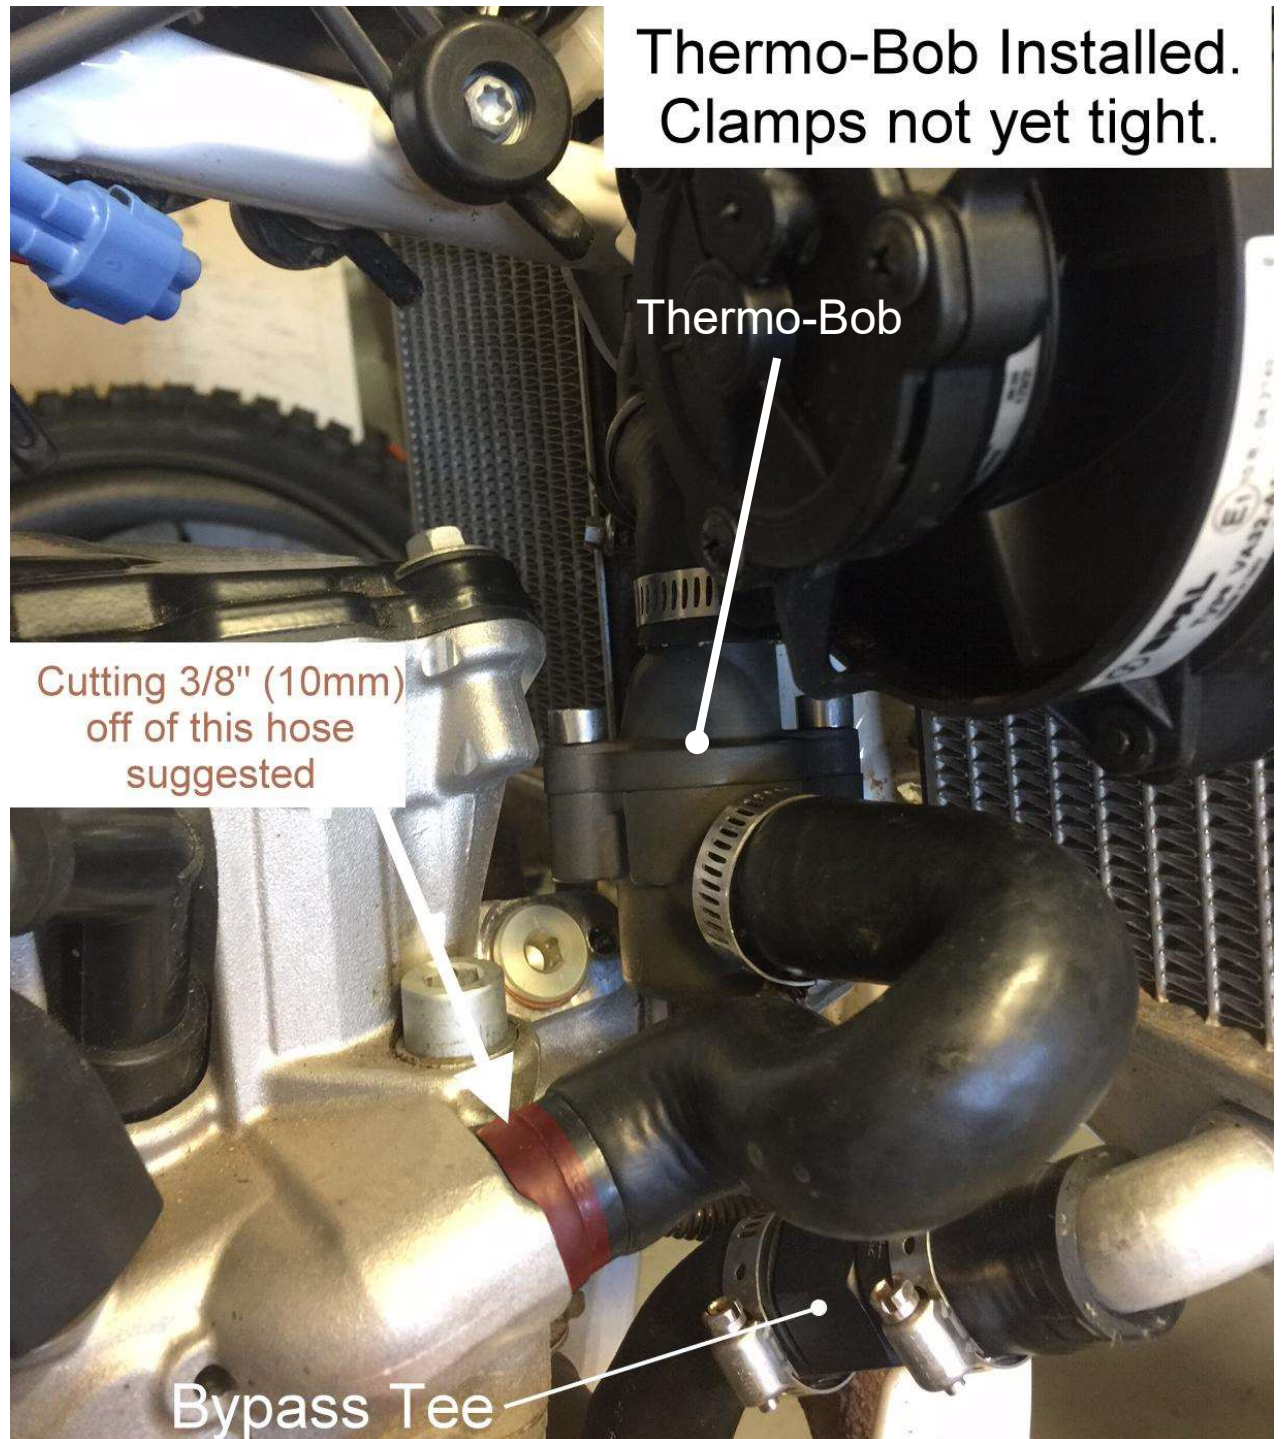
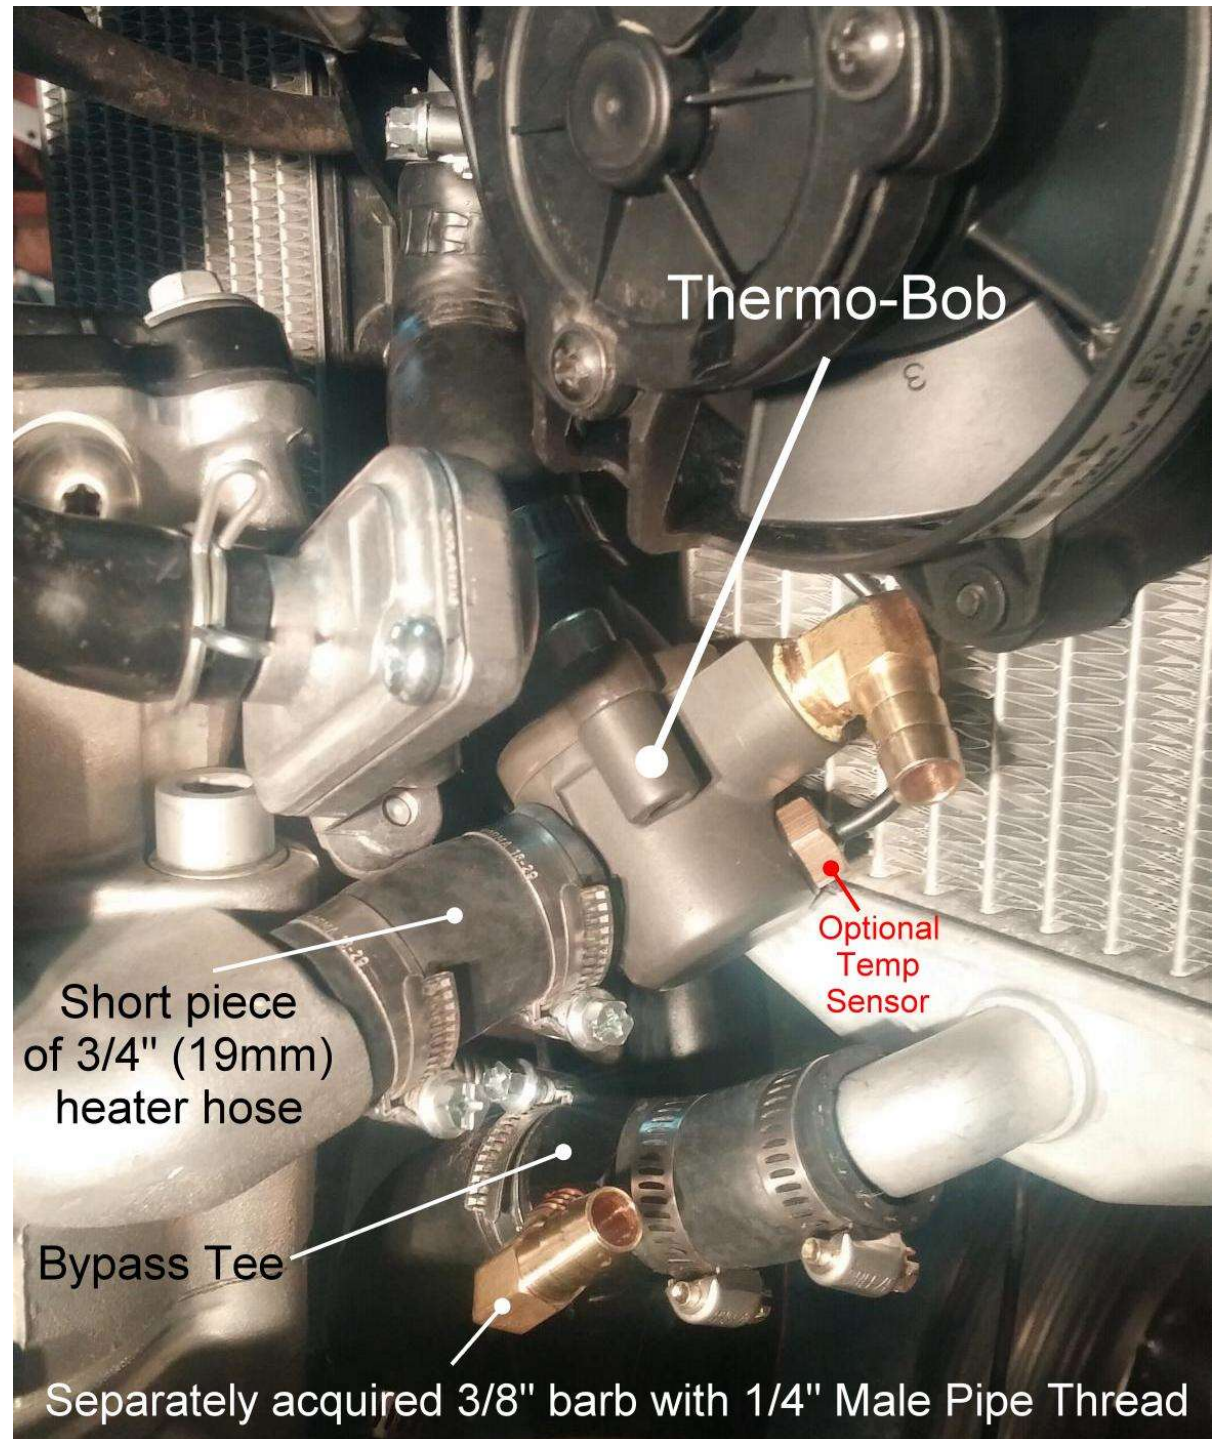

Figure 3.
Figure 5.
- 6) Reinstall the lower radiator hose, complete with aluminum bypass tee (Figure 3, Figure 5). Install the bypass hose, connecting the brass barb on the Thermo-Bob to the brass barb on the bypass tee. **TIP: After determining the proper length and cutting the hose, slide the supplied small clamps an inch or two up the bypass hose, then dip the ends of the hose in a cup of coolant and wipe off the outside. This will lubricate the inside of the bypass hose, making it easier to slide on to the brass barb on the Thermo-Bob, as well as the radiator barb.**